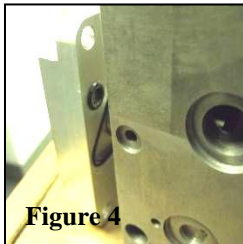

Figure 4
1. Place new Adaptor Plate against Valve as shown in Figure 4. **Note: Orientation is important.**
Adaptor Plate will not install unless oriented as shown in Figure 4. Note: Insure that O-Rings remain seated and in place.